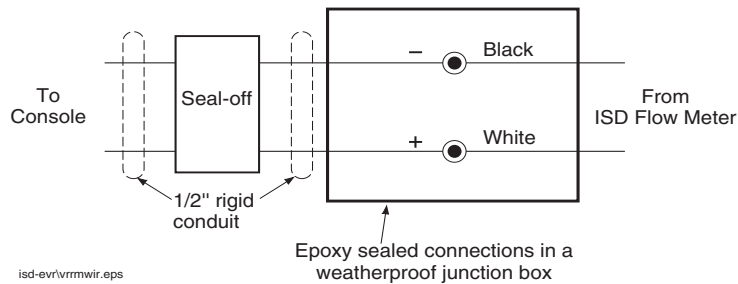

Figure 2. Field wiring Vapor Flow Meter - Observe Polarity
14. Connect the wires from the Vapor Flow Meter to the field wiring from the console and cap with wire nuts (see Figure 2). Not required when connecting to the TLS RF transmitter (W2).
9. Route the wiring into the junction box via the supplied cord grip assembly. Connect the wires from the Vapor Flow Meter to the field wiring from the console and cap with wire nuts (see Figure 2) - OR - connect the wires to the TLS RF transmitter (W2).